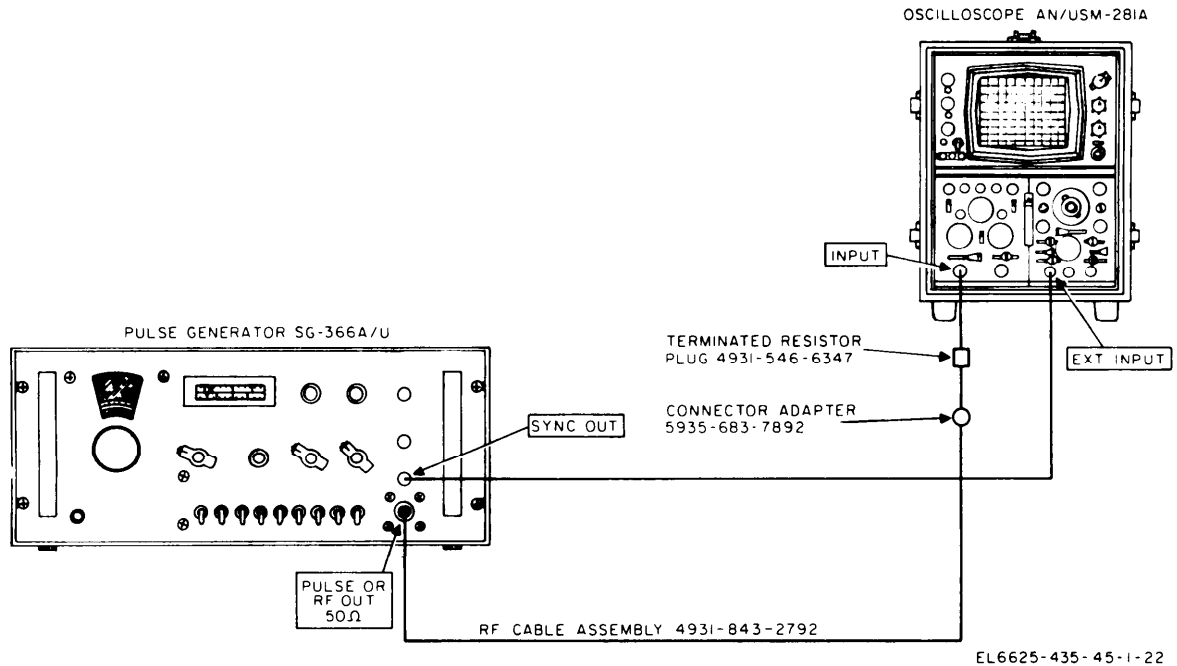

Figure 4-2. Pulse width and pulse amplitude tests, equipment setup.
b. Test Connections and Conditions. Connect the equipment as shown in figure 4-2.